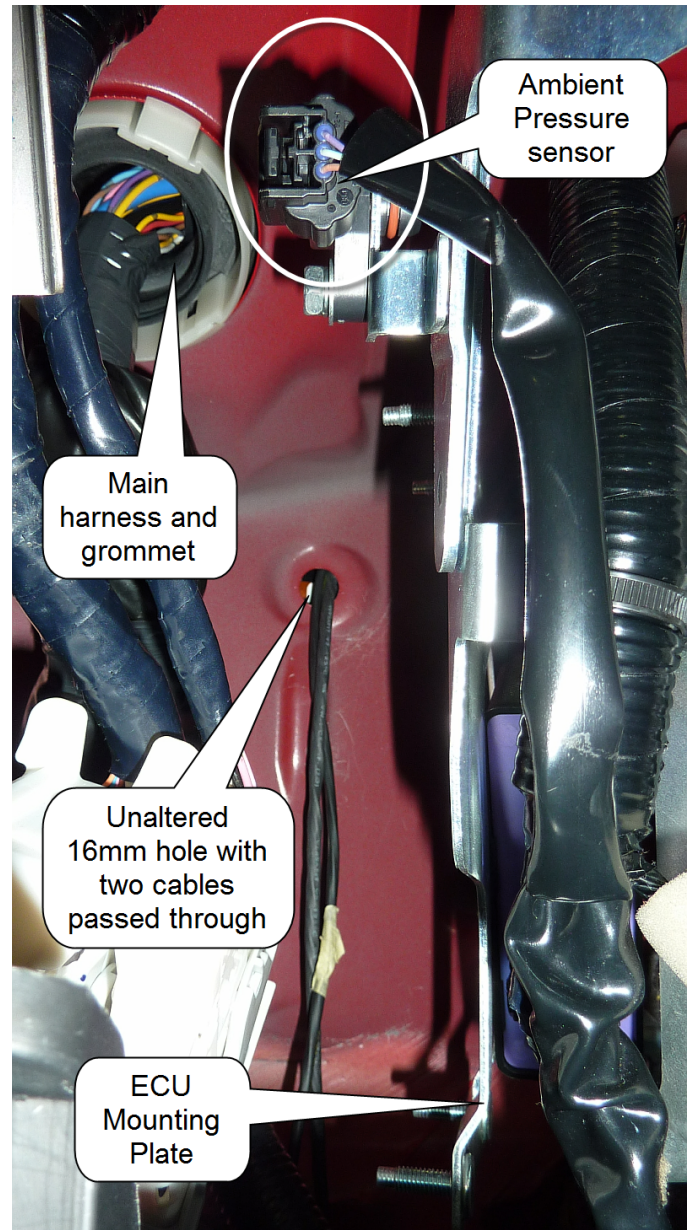

Figure 8.
Also, see Figure 8, it shows the main harness grommet and the 16mm hole from the passenger footwell.
- Ambient Pressure sensor has two options. It may be derived from a sensor in the evaporative canister, or a sensor may be mounted above the ECU, as in Figure 8.